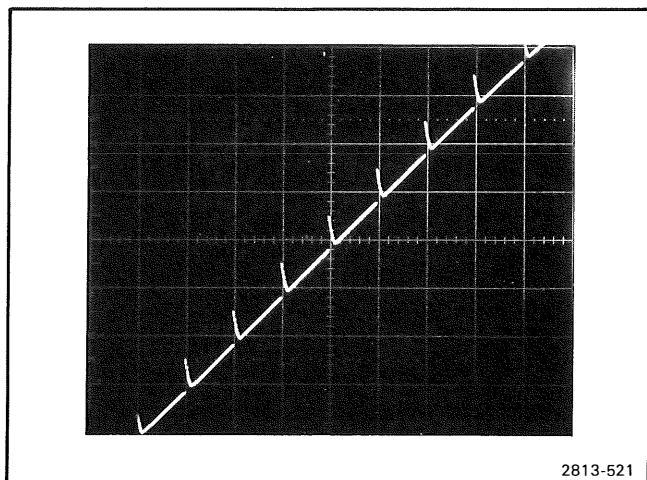

Figure 5-2. Display of Sweep Out versus 1 ms time marks.
- Use the Vert and Horiz Posn controls on the 5223 to align the second time mark with a vertical graticule line. See Figure 5-2.
c. **CHECK**—that the 7th time mark aligns with the 7th horizontal graticule line, $\pm 6\%$ (0.42 division). Figure 5-2 shows the desired display.